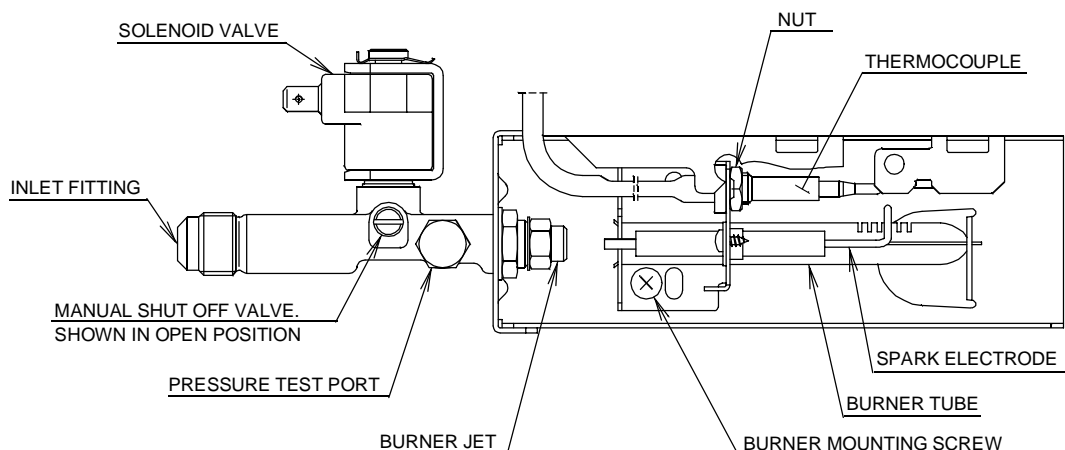

FIG. 12
- D. The LP gas pressure should be checked and the main regulator readjusted if pressure is incorrect. The correct operating pressure is 11 inches of water column. The correct place to take the LP gas pressure is at the test port just ahead of the burner jet. (See FIG. 12).
6. Remove the burner mounting screw and remove the burner assembly. (See FIG. 12).